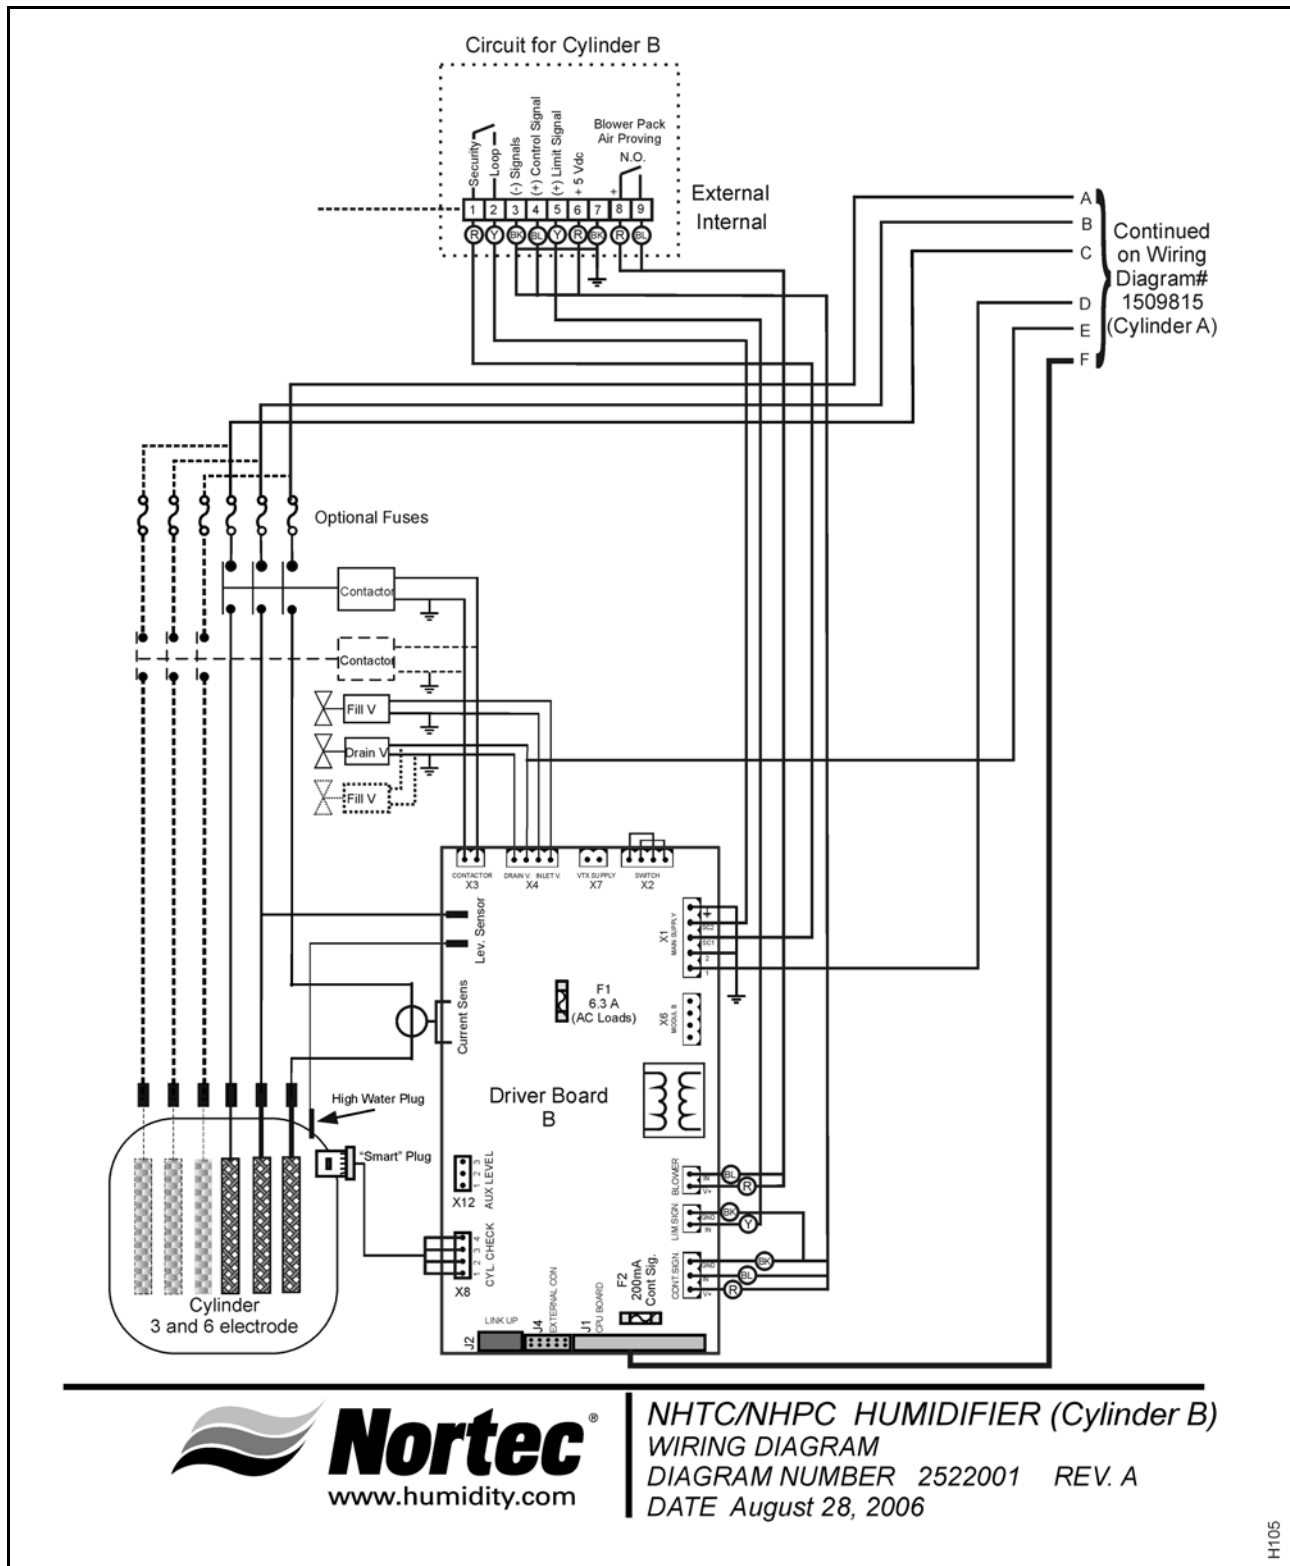

Figure 1. NHTC/NHPC Double Unit Wiring Diagram
(1) See Figure 1 and 2 for the NHTC/NHPC Single and Double Unit Wiring diagrams.